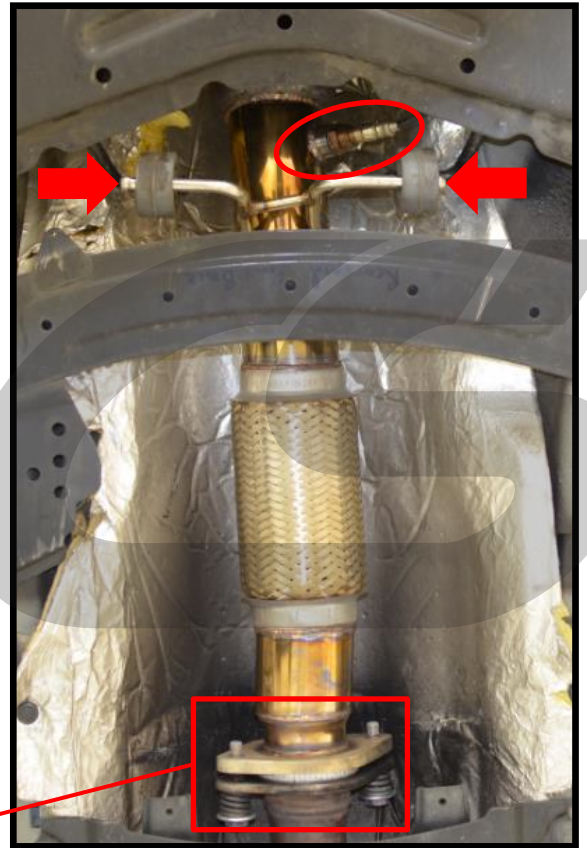

Figure 6c
- c) Remove the second oxygen sensor with an oxygen sensor socket and 1/2" ratchet, **circled in red in Figure 6c.**
- e) Remove the exhaust hangers from the downpipe, shown with the **red arrows** in **Figure 6c.**